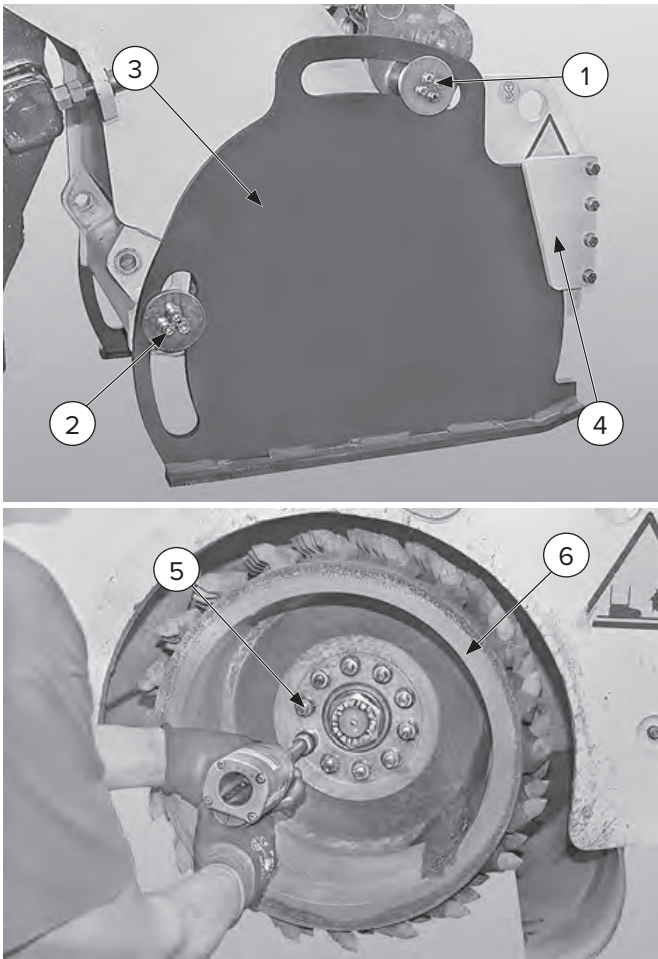

Figure 28
1. Remove the screws, pins [Figure 28, Items 1 and 2, page 34], and plate [Item 3] from the side opposite to the hydraulic motor.